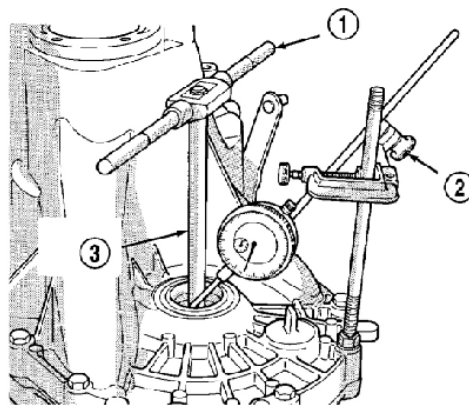

Figure 3-101 Checking end gap of differential bearing and determining the thickness of gasket
Note: the position of dial gauge shown in Figure 3-101 is only for schematic purpose. The dial gauge shall be parallel with tap holder to get the most accurate value.
- (6) Apply moderate down force to the differential with tool C-4995 and tap holder to rotate it for several times so that the bearing will be stabilized, then clear dial gauge. To obtain the value of end gap, rotate the differential back and fro and apply a moderate down force and write down end gap value (Figure 3-101).